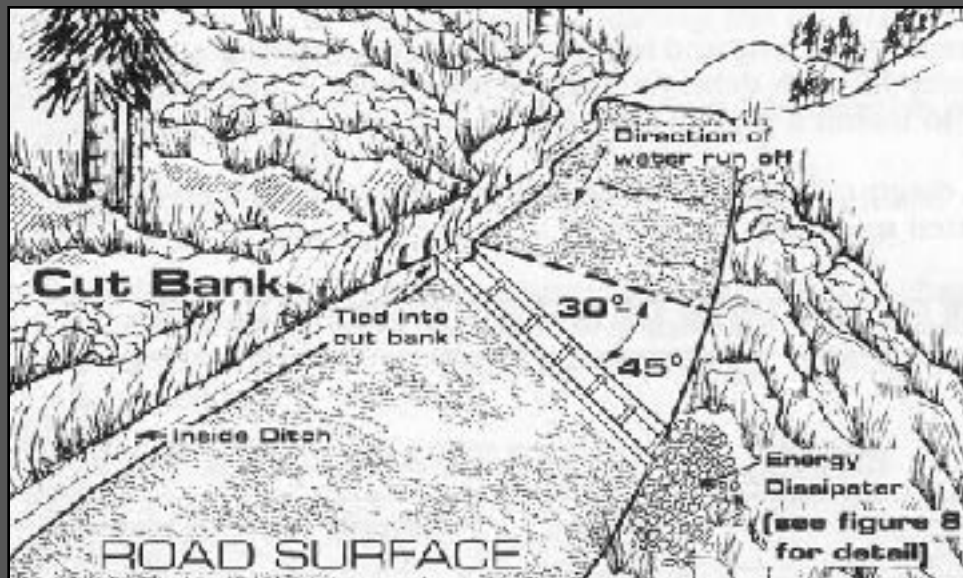

Figure 6.
- Keep the outlet clear of debris and sediment so that water drains freely onto an energy dissipater (see Figures 6, 8 & 9).
adequate drainage. The slope of the drain should be no less than 1/2 inch per foot of length, to prevent clogging from sediment and debris. As an example, for a 16-foot-long channel drain, the outlet should be 8 inches lower than where the drain ties in with the cutbank (see Figure 6).